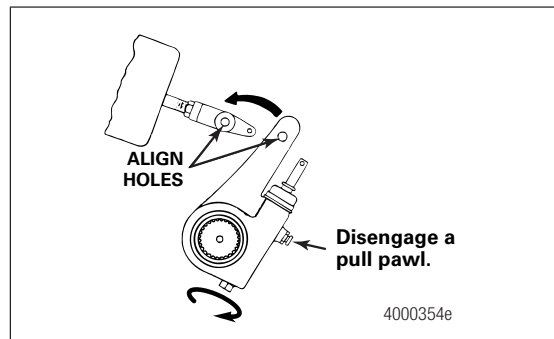

Figure 5.11
11. Disengage the pull pawl. Turn the manual adjusting nut to align the holes in the slack adjuster arm and clevis. Figure 5.11.